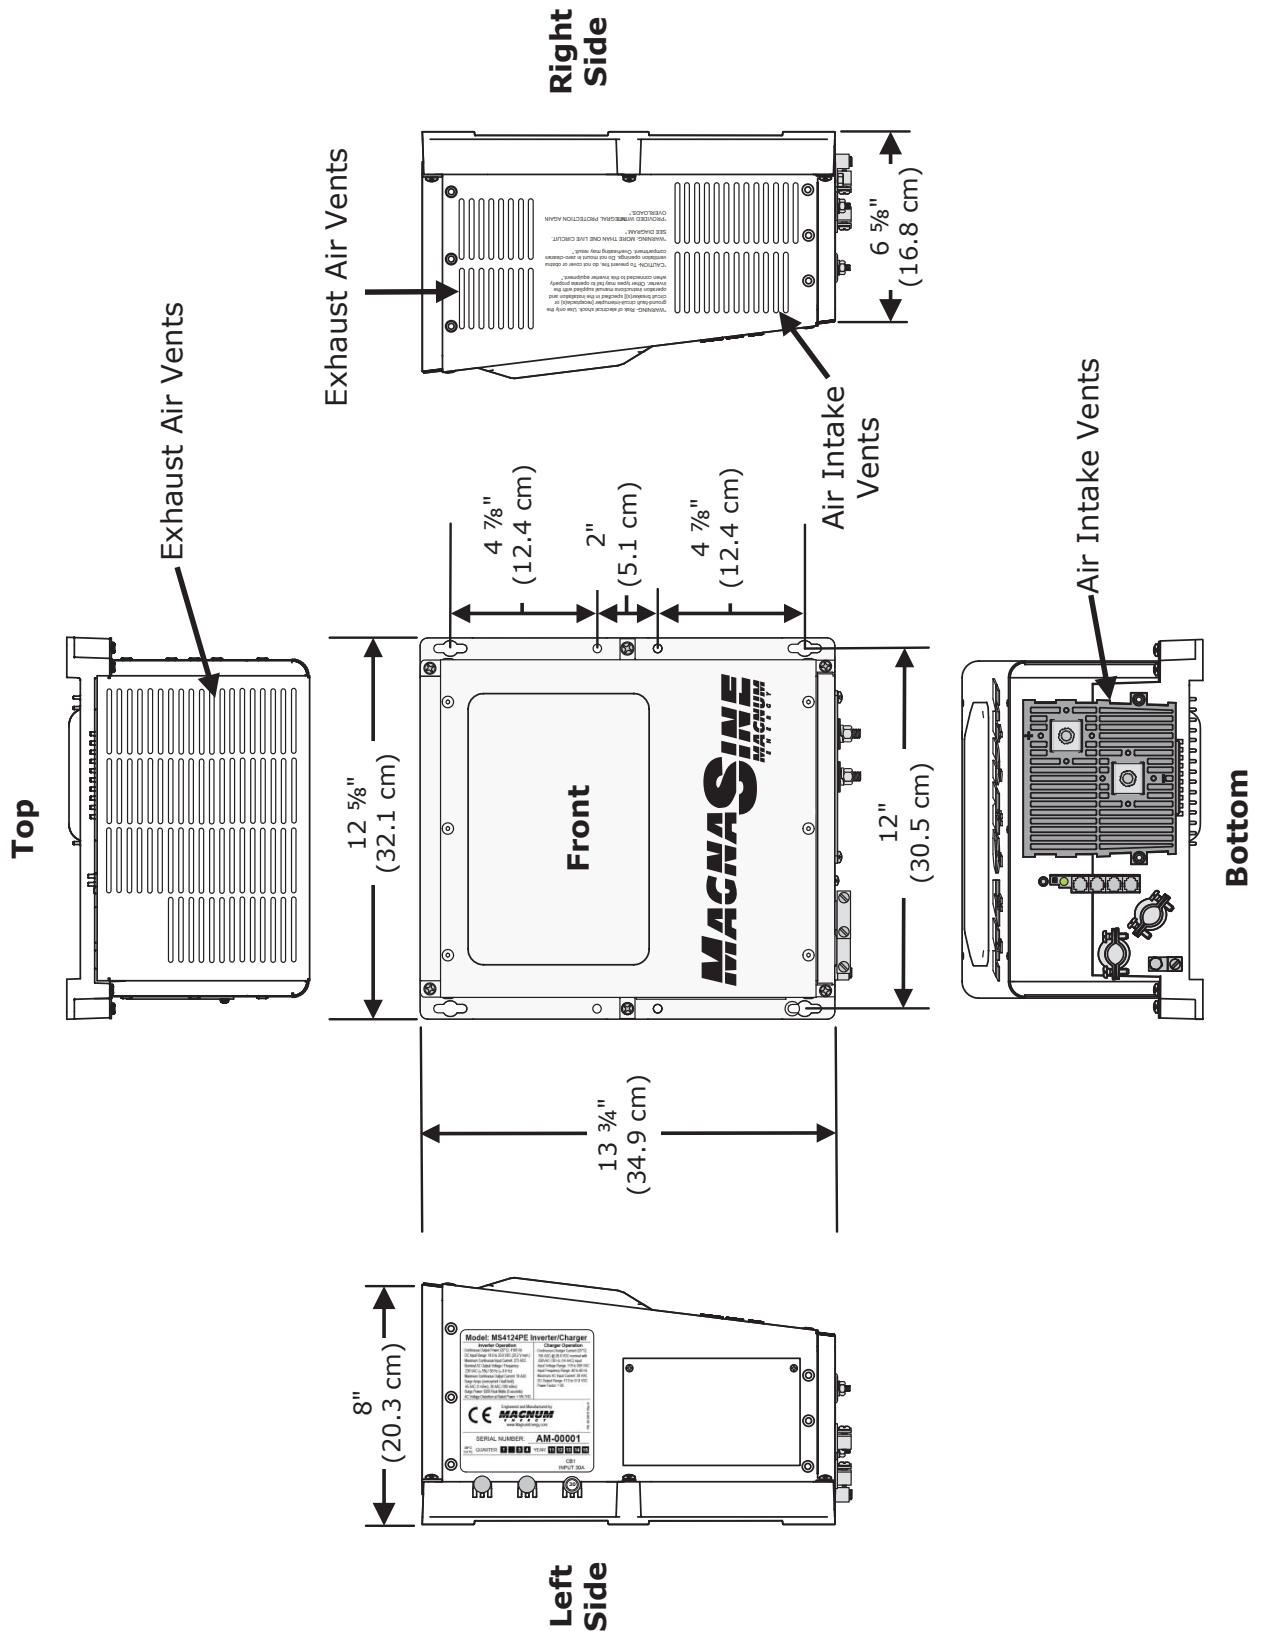

Figure 2-3, MS-PE Series Dimensions and Side Reference
- 9 **Intake Air Vents** – ventilation openings to pull in air to help keep the inverter cool for peak performance. The intake air vents are located on the front side and at the front on the right side; see Figure 2-3 for the locations of the air vents.
- 13 Exhaust Air Vents** – ventilation openings that allow heated air to be removed by the internal cooling fan. The exhaust air vents are located on the back side and at the rear on the right side; see Figure 2-3 for the location of the air vents.
Accessible – Do not block access to the inverter's remote control and accessory ports, as well as the inverter's controls and status indicator. Allow enough room to access the AC and DC wiring terminals and connections, as they will need to be checked and tightened periodically. See Figure 2-3 for the MS-PE Series' inverter/charger dimensions.
After determining the mounting position, refer to the physical dimensions as shown in Figure 2-3, or use the base of the inverter as a template to mark your mounting screw locations. After marking the mounting screw locations, mount the unit with appropriate mounting hardware.